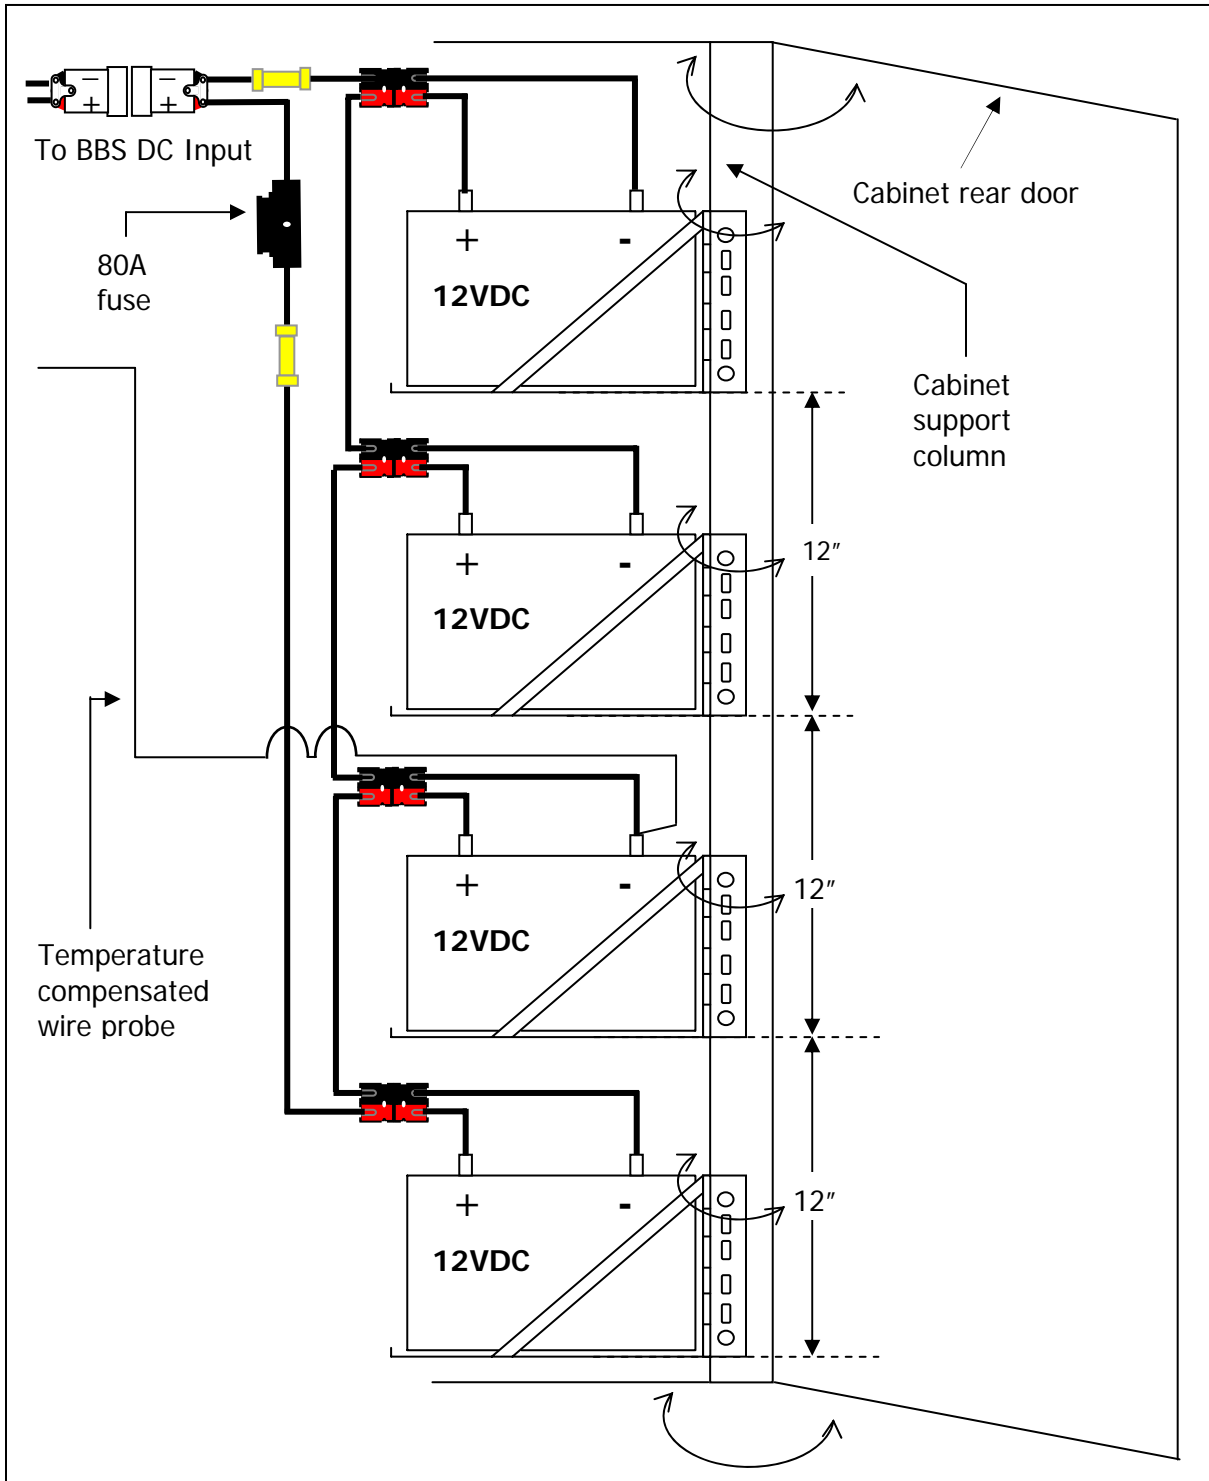

FIGURE 11: Battery wiring configuration
- b) Using six screws and washers, attach each swing out battery shelf hinge-mounting surface to the front of the vertical cabinet support. Space the swing out battery shelves at 12" from bottom to bottom. See Figure 11, page 18.